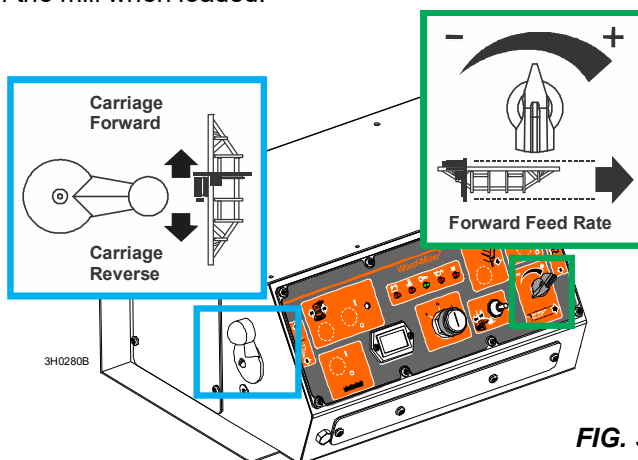

FIG. 3-3
7. Use the carriage forward/reverse switch (left side of control box) to move the cutting head toward the front (hitch end) of the mill. **See Fig. 3-3.**
8. Move the feed control switch (left side of control box) to move the cutting head toward the front end of the mill. **See Fig. 3-3.**